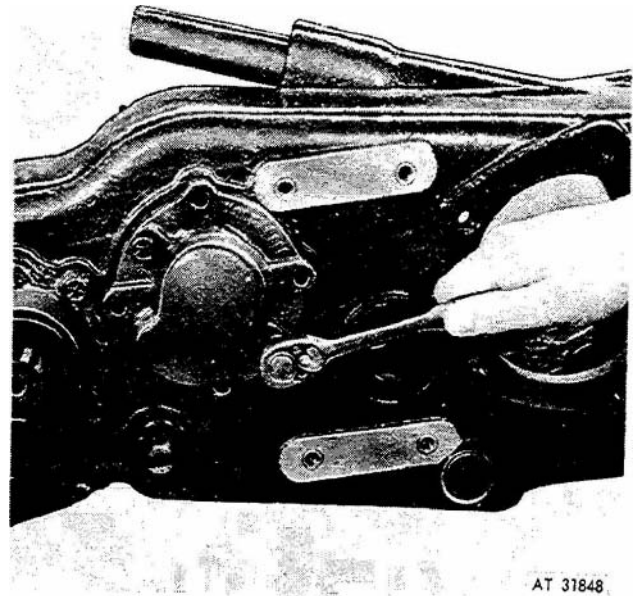

Figure 3-52. Jack screwing cover from transfer case.
(18) Disconnect cover (40, fig 3-47) and shim (41) by removing screw (38), lock washer (39), and jack screwing cover from transfer case (fig 3-52).